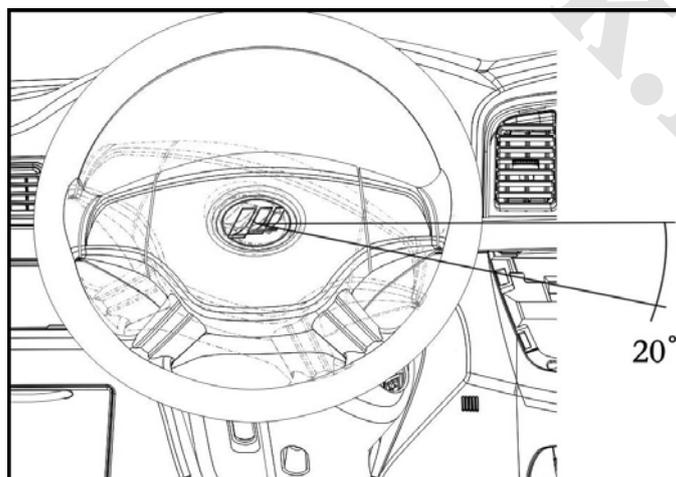

Fig. 2-24
- (1) Make sure that the road wheels are in the straight ahead position.
- (2) Gently turn the steering wheel, and check its free play. As shown in Fig. 2-24, the free play of steering wheel $\leq 20^\circ$.